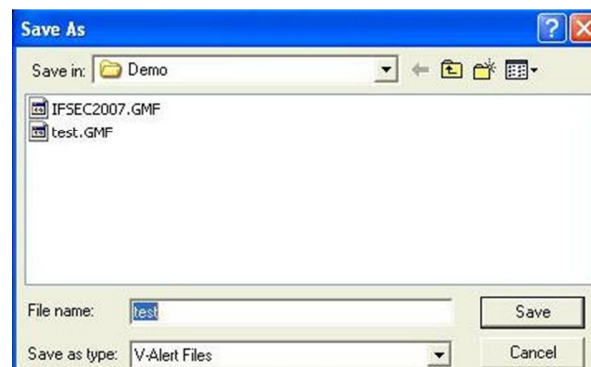

Figure 10: Save File
7.1.4. Clicking on the  button will open the following window (Figure 10):